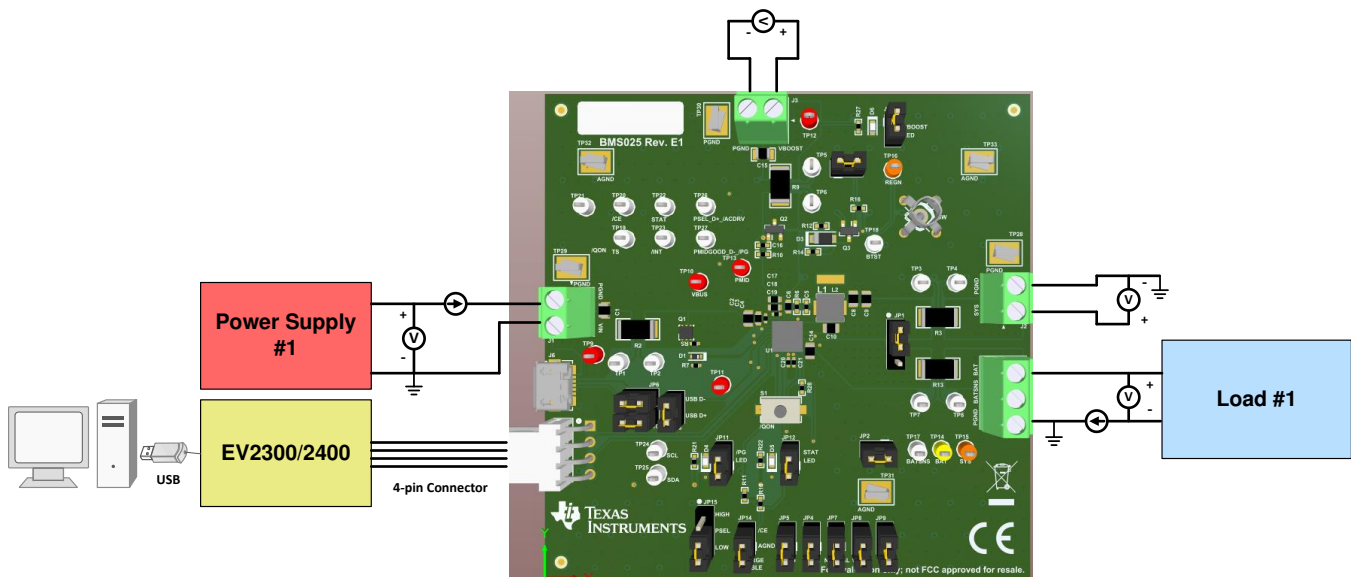

Figure 1. Original Test Setup for BMS025A
5. Turn on Load #1, set to constant voltage mode, and output to 2.5-V. Disable Load. Connect Load in series with a current meter (multimeter), ground side, to J4 (BAT and PGND) as shown in Figure 1.
6. Connect one voltage meter across TP16 (BAT) and TP30 (PGND), or across J4-3 and J4-1 as shown in Figure 1.
7. Connect one voltage meter across TP17 (SYS) and TP30 (PGND), or across J2-1 and J2-2 as shown in Figure 1.
8. Connect one voltage meter across TP14 (VPB) and TP32 (PGND), or across J3-1 and J3-2 as shown in Figure 1.
9. Connect the EV2300/2400 USB interface board to the computer with a USB cable and from I2C port to J5 with the 4-pin cable. The connections are shown in Figure 1.